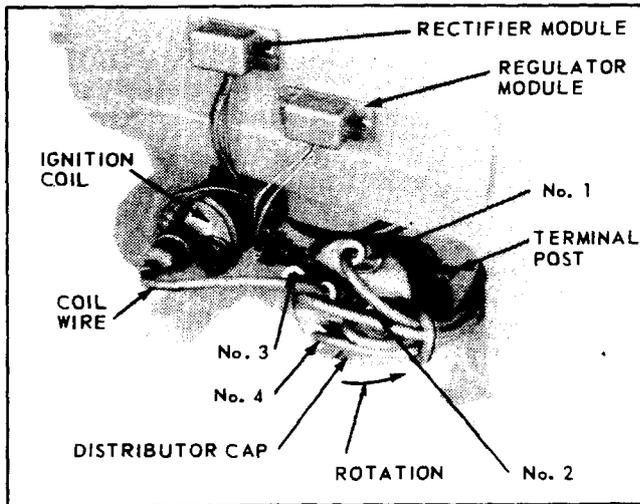

Fig. 22
5. Assemble dust cover and distributor cap. Connect ignition wires from distributor to spark plugs and coil per Fig. 22 and wiring diagram Fig. 27.